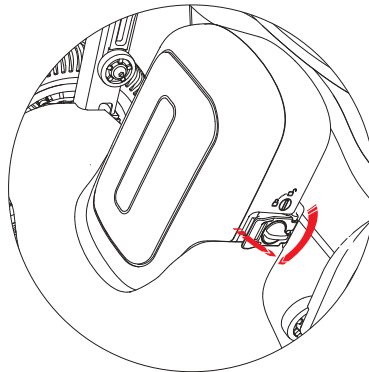

Figure 4.6.1.2
(2) Right Side of Battery Case (Refer to Figure 4.6.1.2)